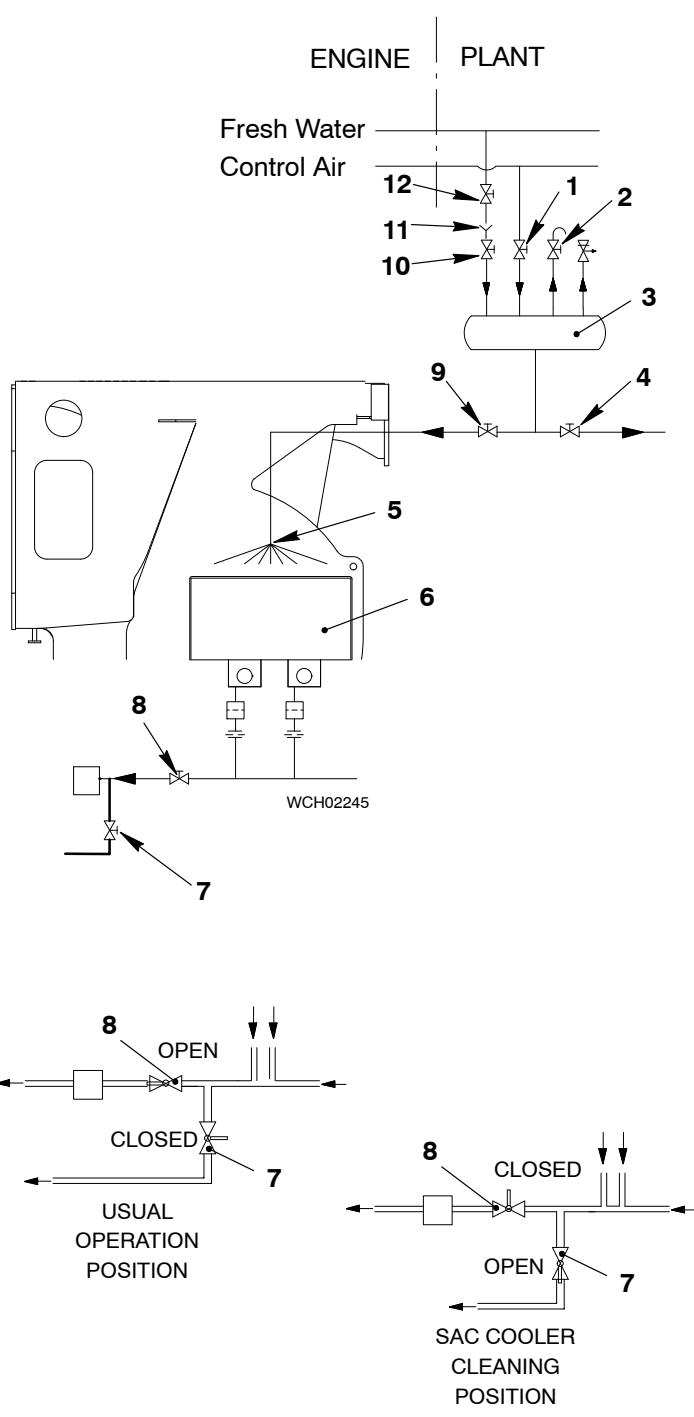

Fig. 2: SAC Air Side – Clean
- 2) Make sure that compressed air and fresh water are available at the shut-off valves (1 and 12, Fig. 2).
- 3) Open the ball valves (2 and 10, Fig. 2).
- 4) Carefully open the ball valve (12) sufficiently to prevent back-flow of water in the funnel (11).
- 5) Fill the air tank (3) through the funnel (11) with fresh water and the specified quantity of cleaning fluid (max 20 liters) (see paragraph 3.2).
- Note:** You can also use a hand-held container filled with cleaning fluid mixed with fresh water to put into the funnel (11). When you use this method, make sure that the shut-off valve (12) stays closed.
- 7) Open the ball valve (1).
- 8) Open the ball valves (4 and 9). The water/cleaning fluid comes out of the nozzles (5) as a spray into the SAC (6) for approximately one minute.
- 9) Close the ball valve (8).
- 10) Open the ball valve (7).
- 11) Close the ball valve (1).